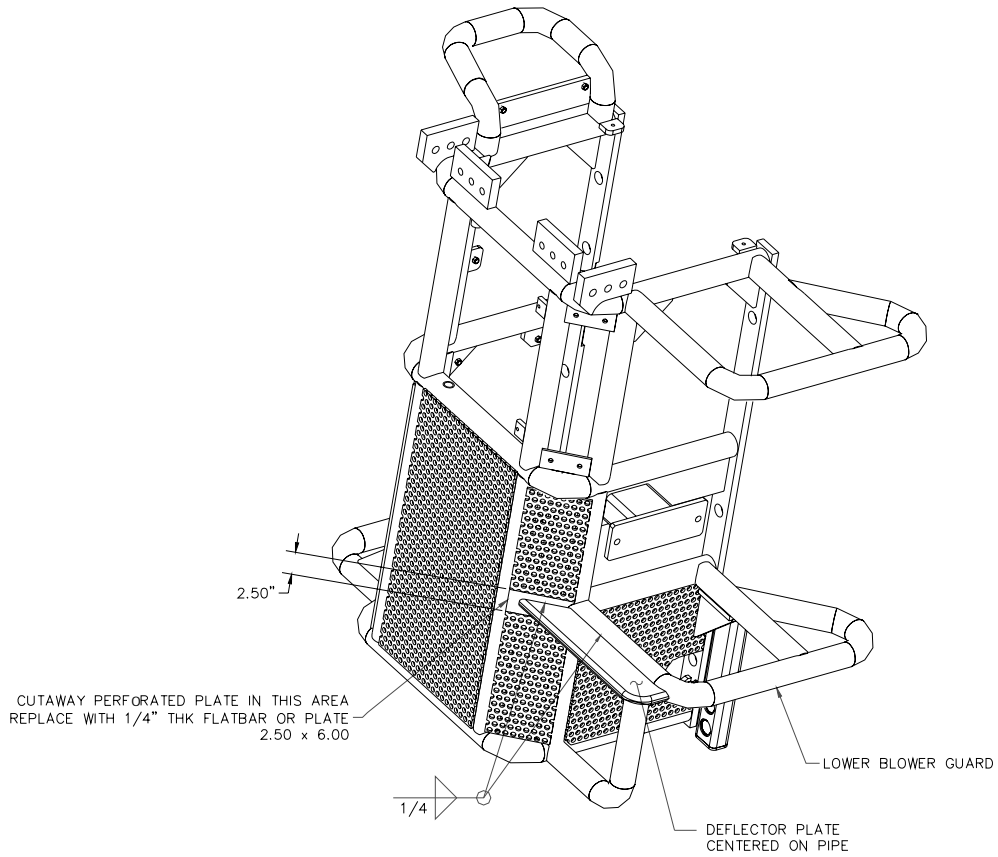

FIG.2
2. Cut away the perforated plate in the area shown in Fig.2. Replace the cut away piece with $\frac{1}{4}$ " thick plate or flat bar which measures 2.50" x 6.00 ". This is to allow a stronger weld between the top drive guard and the deflector plate.
3. Weld the deflector plate onto the lower blower guard as shown in Fig.2. The plate should be centered on the pipe and a $\frac{1}{4}$ " fillet weld should be placed all around the plate on both sides.